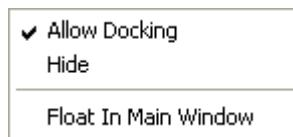

Figure 3.2 Sub-window right-click menu
- right-clicking in the window to open the pop-up menu shown in figure 3.2, then clicking **Float In Main Window**